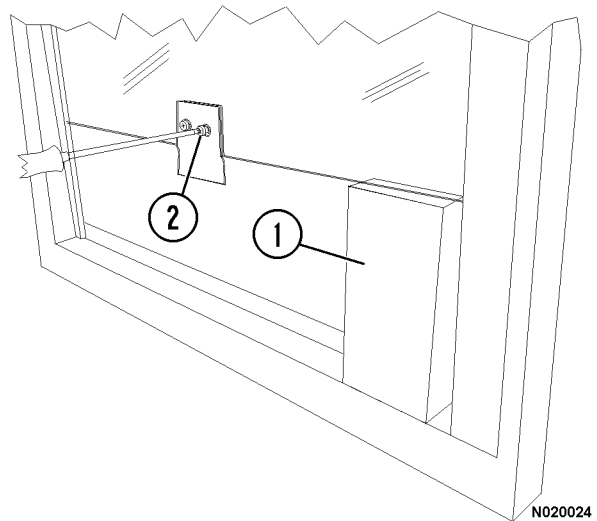

FIGURE 2-9.
7. Support the glass in the door frame with support block (1, Figure 2-9) as shown. Remove screws (2) that hold the adapter for the window regulator track.
15. Lower the glass in the frame and support it with a support block as shown in Figure 2-9.
21. Secure the window glass with duct tape a few inches from the top (Figure 2-9). Install the lower and upper regulator rollers in their tracks. Start by moving the door panel away from the cab just far enough to allow the rollers to enter their tracks. Then, with the rollers in the tracks, slide the panel toward the cab. Move the panel just far enough to allow the upper regulator roller to go into the track on the bottom of the glass.